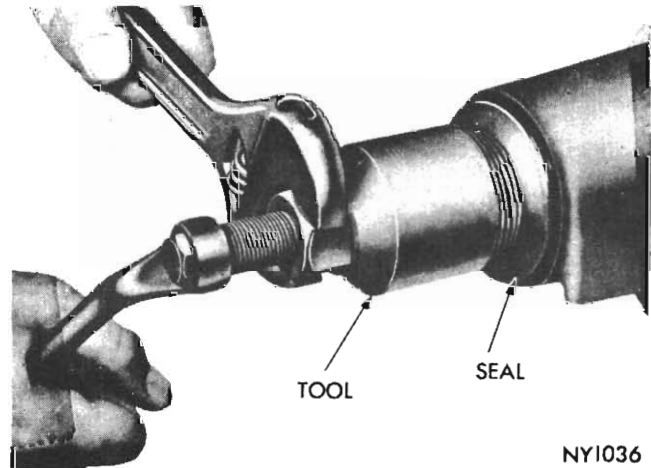

Fig. 17 - Removing pinion oil seal (Tool E3C10C)
- (7) Remove pinion oil seal with Puller Tool E3C10C (see Fig. 17). Remove pinion front bearing and preload spacer washer.